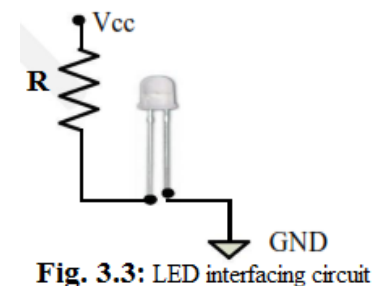

Fig. 3.3: LED interfacing circuit
- The ideal LED interfacing circuit is shown in figure 3.3.